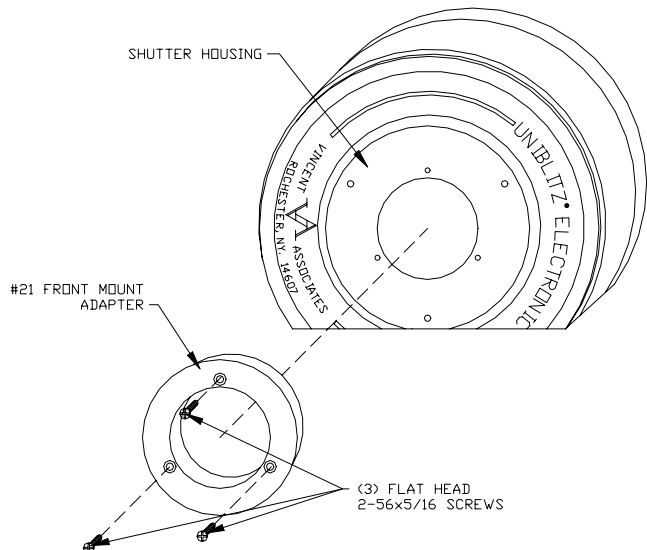

Figure 2
Using the (3) 2-56 screws provided, attach #21 front adapter to the front side (with name plate) of the shutter housing (see Figure 2).